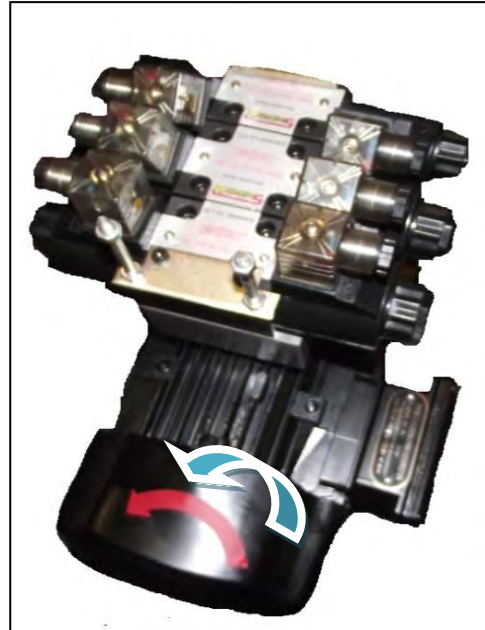

Fig5
- ◆ Connect the tire changer with the electrical supply and close the switch. Check if the running direction of the motor is the same to the direction of the arrow (Fig 5). If the direction is reverse, it needs the professional personnel to change the phase.